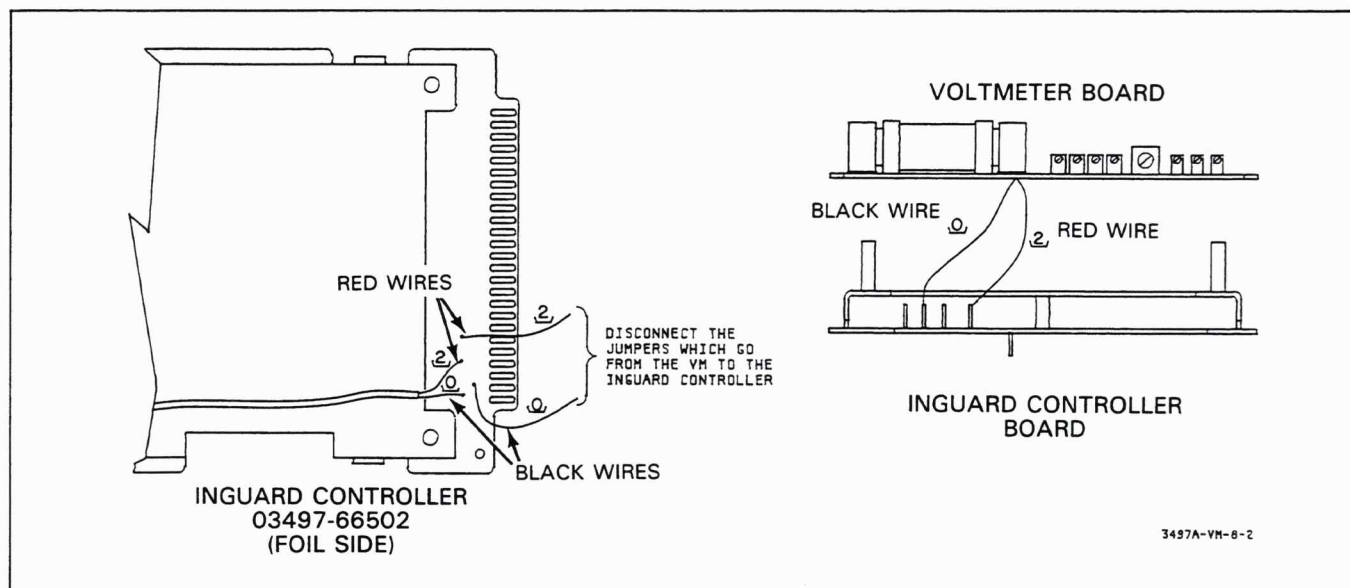
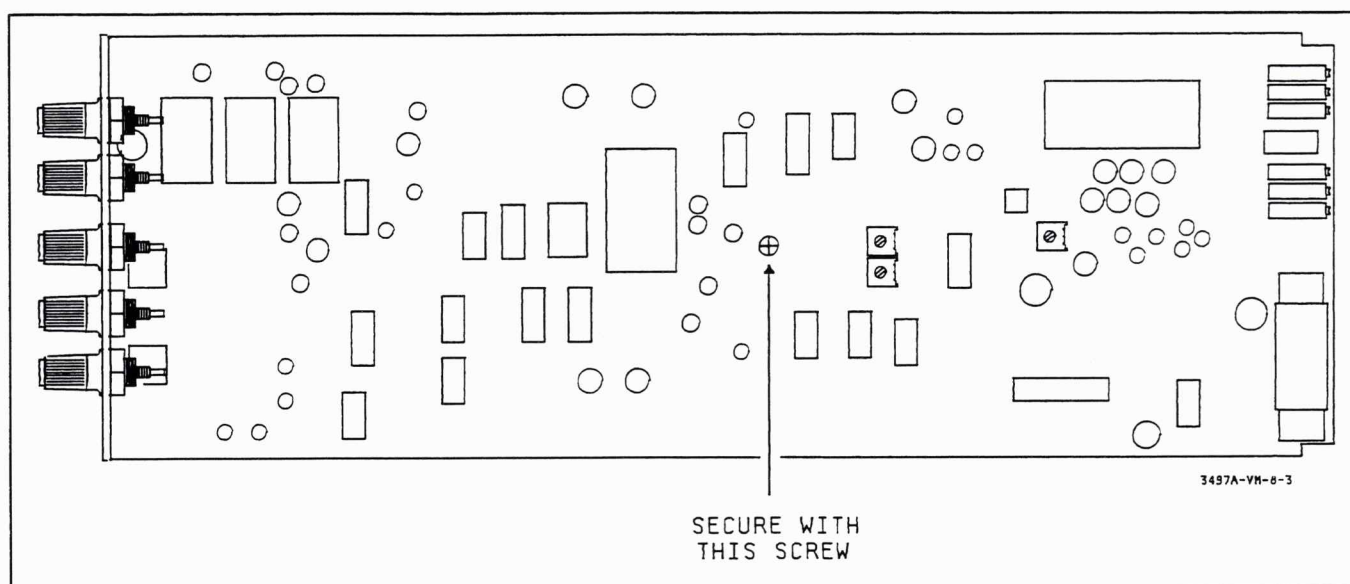

Figure 2-5. Inguard Controller Board with Voltmeter
Figure 2-6. Mounting Voltmeter on Inguard Controller
- b. Locate the red and black twisted pair soldered to the board and connect it (with its female plug-in terminals) to the non-component side of the inguard controller board, as shown in Figure 2-5.
- c. Place the voltmeter printed circuit board, component side out, in position over the inguard controller mounting frame, as shown in Figure 2-5. Secure the board with one machine screw (-hp- Part Number: 0515-0271), as shown in Figure 2-6.